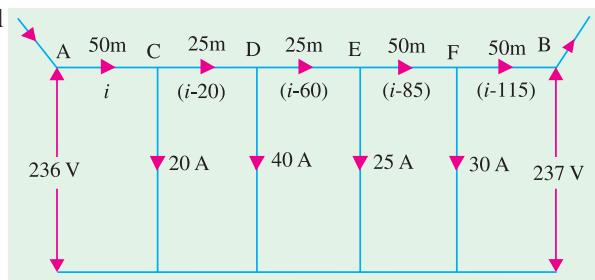

Fig. 40.21
**Solution.** The distributor along with currents in its various sections is shown in Fig. 40.21.